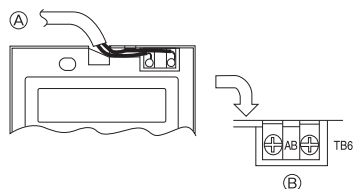

Fig. 5-7
⑥ Wall
⑦ Conduit
⑧ Lock nut
⑨ Bushing
⑩ Switch box
⑪ Remote controller cord
⑫ Seal with putty
⑬ Wood screw
2) Connecting procedures (Fig. 5-7)
① Connect the remote controller cord to the terminal block.
② To TB5 on the indoor unit
③ TB6 (No polarity)